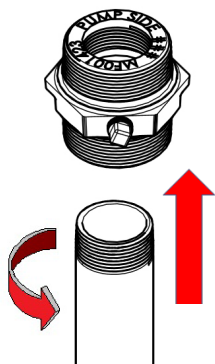

Figure 3A
- 3) Wrap the threads of the suction pipe with the appropriate sealant for the fluid being pumped. Insert the suction pipe (with the threaded side up) into the bottom of the bung adapter until the threads engage (Figure 3A, 3B, and 3C). Tighten to create an air / fluid tight seal.